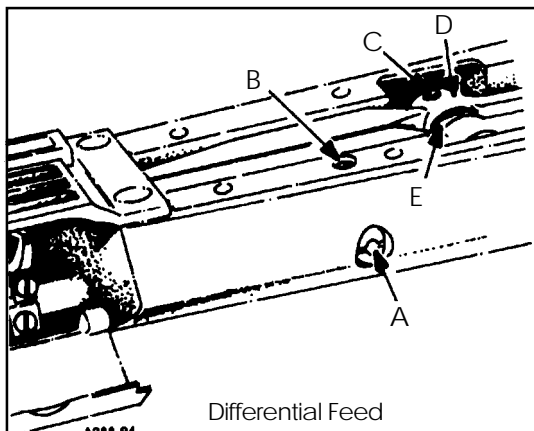
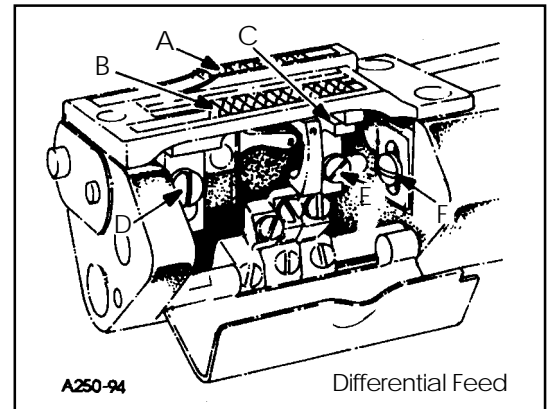

FIG. 10A
FIG. 11A
Before assembling the main and differential feed dogs, set the feed bar eccentric pin (A, Fig. 10A) located in the left side near center of cylinder, so that the slot in the head is in a horizontal position for the 35800BWDNG, BLWG style machines and turned counter clockwise to an approximate 45° for the 35800BWWG style of machine. The pin can be used to slightly tilt both feed dogs if necessary. The feed bar pin is retained in position by set screw (B). Assemble differential feed dog (A, Fig. 11A), main feed dog (B) and throat plate. Both the main and differential feed dogs can be individually adjusted to height. Main feed dog (B) at its highest position, should be set to project above the throat plate, the depth of its teeth. If adjustment is necessary loosen screw (D) and move feed dog (B) up or down to attain correct setting. Feed dog support (C) should support front of feed dog.
NOTE: If eccentric pin (A, Fig. 10A) is used to tilt the feed dogs, make sure that the looper does not interfere with the rear needle guard and that the needle guard does not pinch the needle loops on the back side of the needles.
If adjustment is necessary loosen screw (E, Fig. 11A) in feed dog support (C) and move as required. Retighten screw (E). The differential feed dog (A) may then be leveled with main feed dog (B). If adjustment is necessary loosen screw (F) and move feed dog up or down as required. Retighten screw (F).
NOTE: Should the main feed dog require repositioning due to contact with the throat plate in its forward or rearward travel, loosen set screw (C, Fig. 10A) in main feed bar driving link (D), rotate main feed bar eccentric driving stud (E) as required. Driving stud (E) has a thin hexagon head with cutouts on two of the flats allowing movement by tapping with a sharp pointed tool, when wrench 21388AZ is not available. Whenever the main feed bar eccentric driving stud position has been changed, recheck rear needle guard setting, adjustment may be required. Retighten set screw (C). Position main feed dog support (C, Fig. 11A) flush against bottom of main feed dog (B), tighten support screw (E) securely.